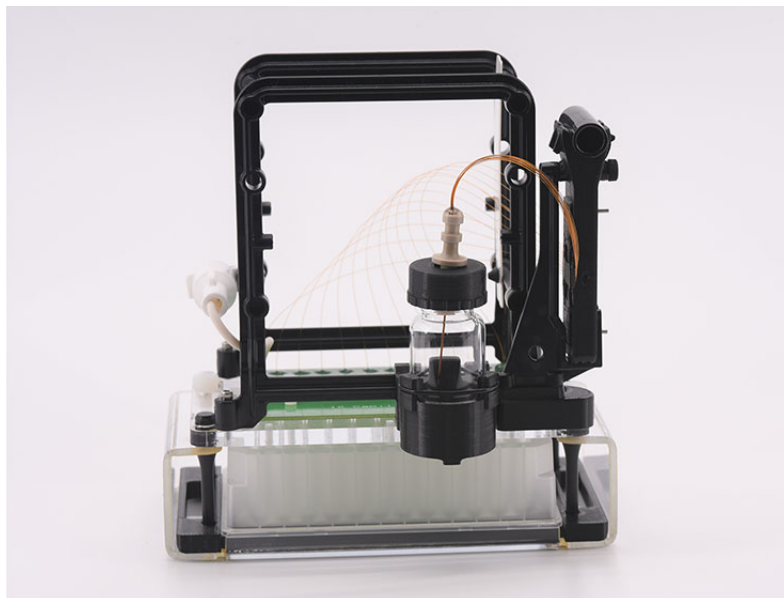

Figure 116 Array docking station and array spindle storage device with array installed
To see a full image of the array with the array spindle storage device installed, refer to **Figure 116**.
- 8 Remove the capillary array outlet spindle from the black storage plug and place it into the array spindle storage device as shown in **Figure 116**.